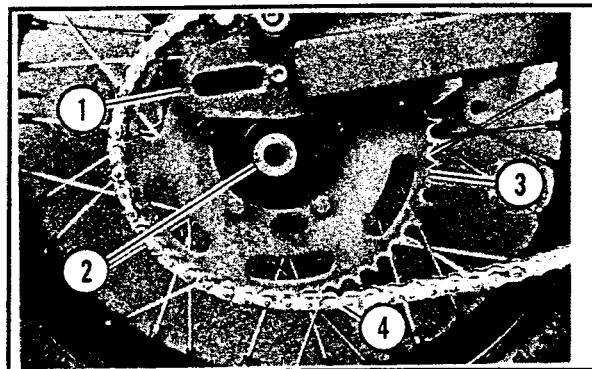

Figure 5-53. Remove Hub Spacer
6. See Figure 5-53. Push wheel forward so brake disc clears caliper. Lower wheel from swing arm (1) and tilt top of tire to right. Remove spacer (2) from sprocket hub. Disengage drive chain (4) from sprocket (3).
3. See Figure 5-53. Place drive chain (4) over teeth of sprocket (3). Install spacer (2) onto sprocket hub (2). Raise wheel and tire, pulling wheel toward rear of vehicle while inserting brake disc between pads of brake caliper.